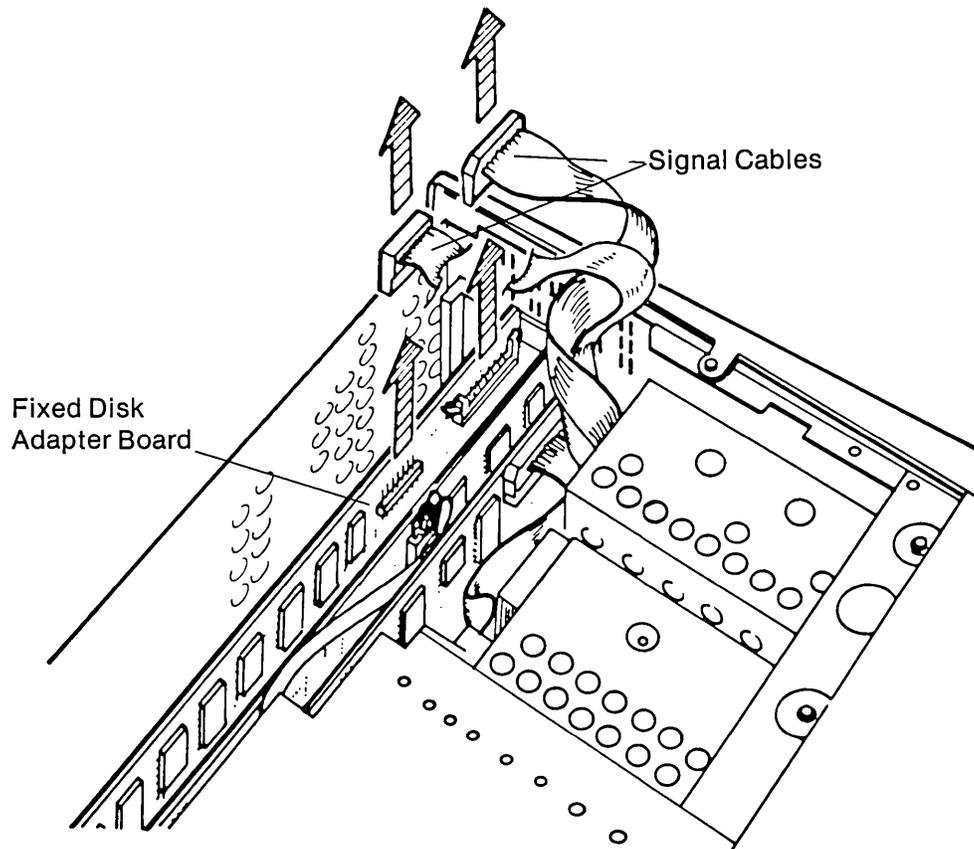

Figure 10-5. Disconnecting the Signal Cables From the Fixed Disk Adapter Board.
Carefully disconnect the two (2) flat-ribbon signal cables from the fixed disk adapter board (see Figure 10-5).